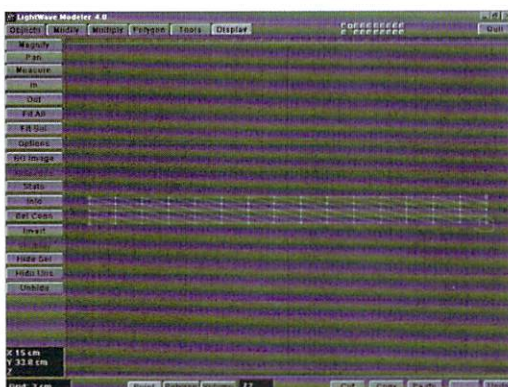

Figure 10: Highlight each of the points in the four corners.
- Select the points on each of the four corners, as shown in Figure 10.